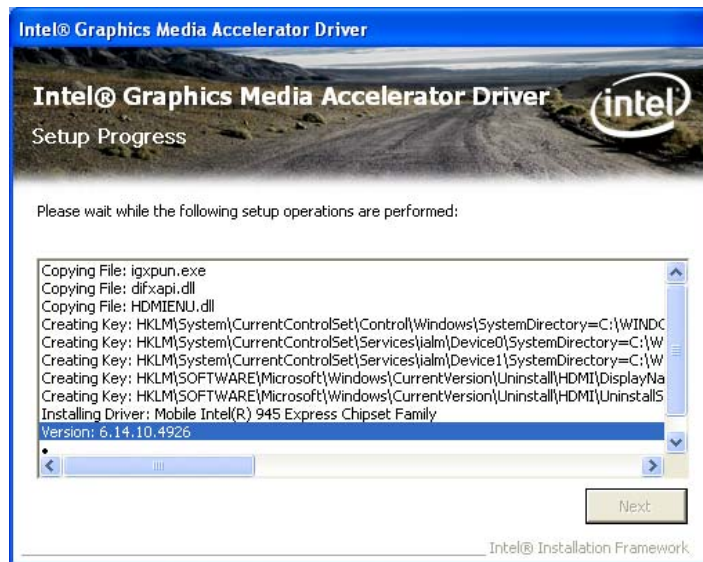

Figure 6-13: VGA Driver Setup Operations
Step 13: Setup Operations are performed as shown in Figure 6-13.